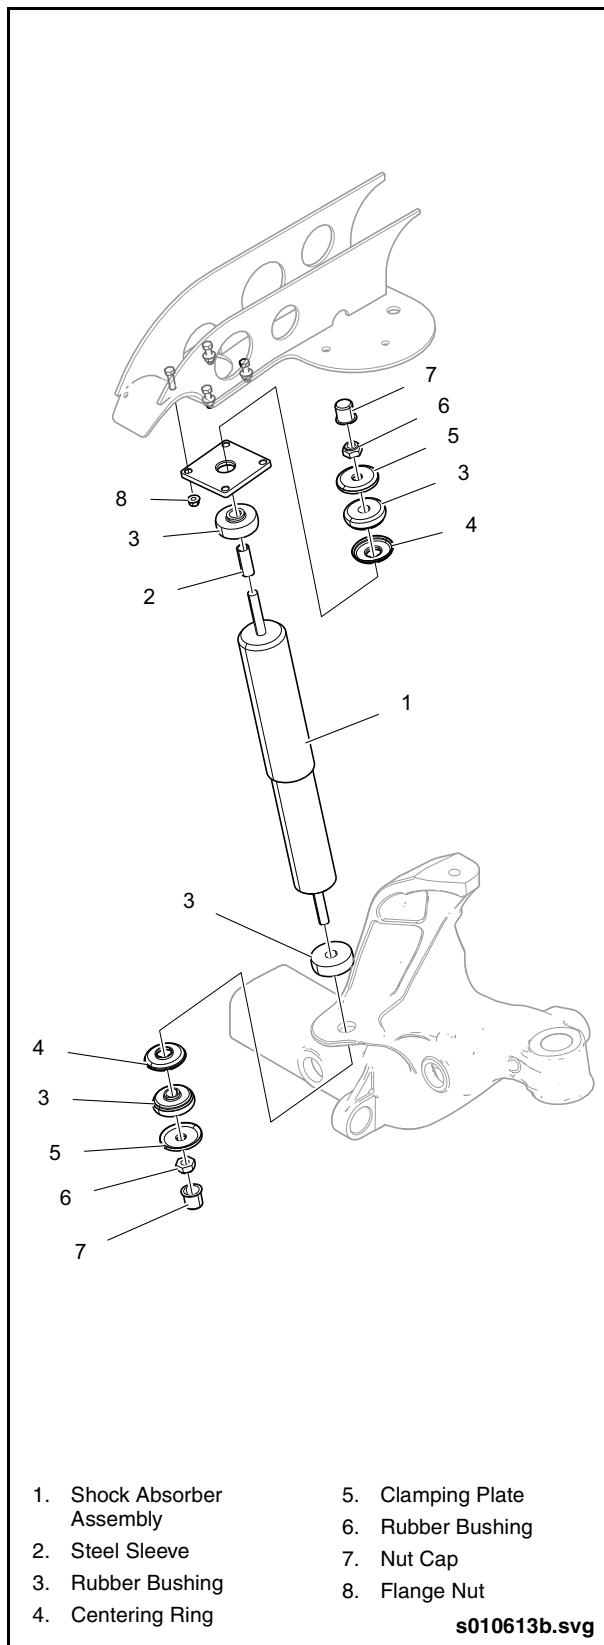

Fig. 1-41: Shock Absorber Installation
2. Remove the four nuts retaining the upper shock mounting plate to the chassis bracket. See "Fig. 1-41: Shock Absorber Installation" on page 40.